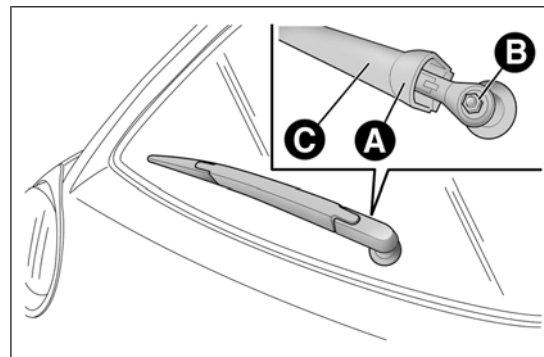

fig. 166
- ❑ raise cover A fig. 166, undo nut B and remove arm C;